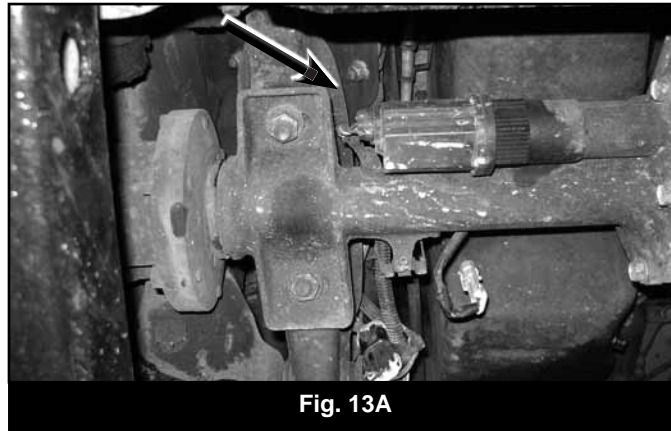

Fig. 13A
30. Disconnect the breather line from the driver's side of the front differential. Disconnect the electrical connector from the differential actuator, remove the wire from retaining clips on the differential and pull the wire out of the way. (Fig 13A,B).